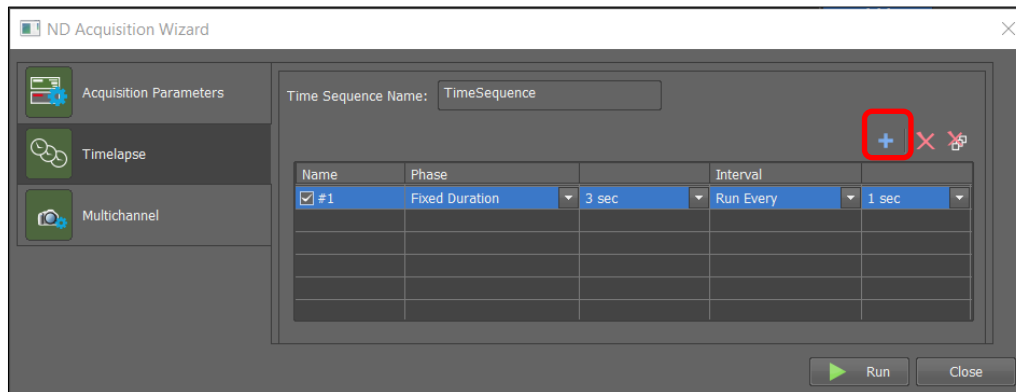

Figure 22: Setting Timelapse parameters. Add 'Time Sequence' using blue cross (red box)
- To set timelapse properties, select the 'Timelapse' window on the left. Add a 'Time Sequence' using the blue cross (red box, Figure 22) and enter timing parameters.